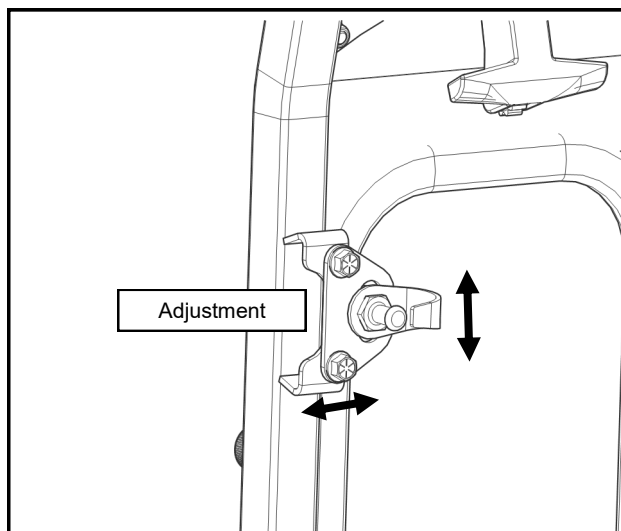

Fig. 24.3 (Striker Pin Adjustment)
24.4 Open the door and check for smooth operation of the latch. As noted in step 24.3, the door will likely drop a little bit at the front and the striker pin will need to be adjusted down accordingly. Also make sure the door seal is making contact along the perimeter of the door and the latch clicks twice when closing. If necessary adjust the striker in or out to achieve this (see Figure 24.3).